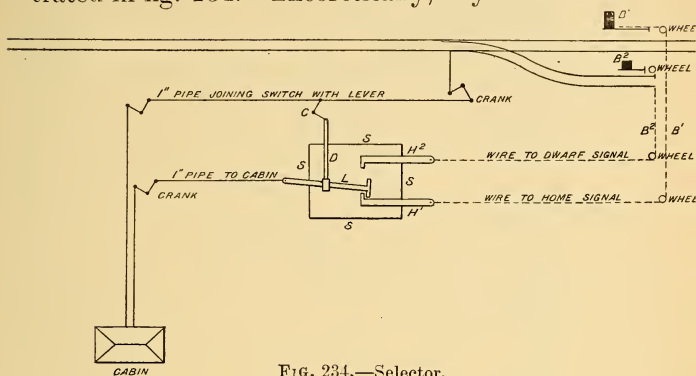

FIG. 234.—Selector.
same lever and its essential parts are illustrated in fig. 234. Theoretically, any number
and 2 regulate the selectors for 3 signals (A) in one direction and for two signals (B) in the other direction, yet a "2-way selector" is used in each case. This is so because although there are three routes, signal B² is cleared whichever of the switches 1 or 2 is set for the divergent route. In consequence of this rule the selector of fig. 234, is a "1-way." A box,
Selector. S, fig. 234, contains two hooks, H, (three in a two-way, four in a three-way, etc.) which form the connection with the signal wires, a lug, L, (only one lug is used for all "ways") and a driving rod, D, (a separate driving rod is used for each switch and the number in a selector therefore corresponds exactly with the size, 1-way, 2-way, etc., of the selector). The crank, C, connects D with the line of pipe which joins the switch with its lever in the machine, and D, consequently acts in accordance with the motion of the switch lever. Through a hole in D, L is loosely passed so that although it is moved by D laterally, nothing prevents the longitudinal motion of L. As the drawing is made, the switch stands for the main track and L is in connection with H¹ (the main-track signal hook). If the switch should be reversed by moving its pipe to the left, D would force L into connection with H² and L then being moved to the left would result in lowering B².